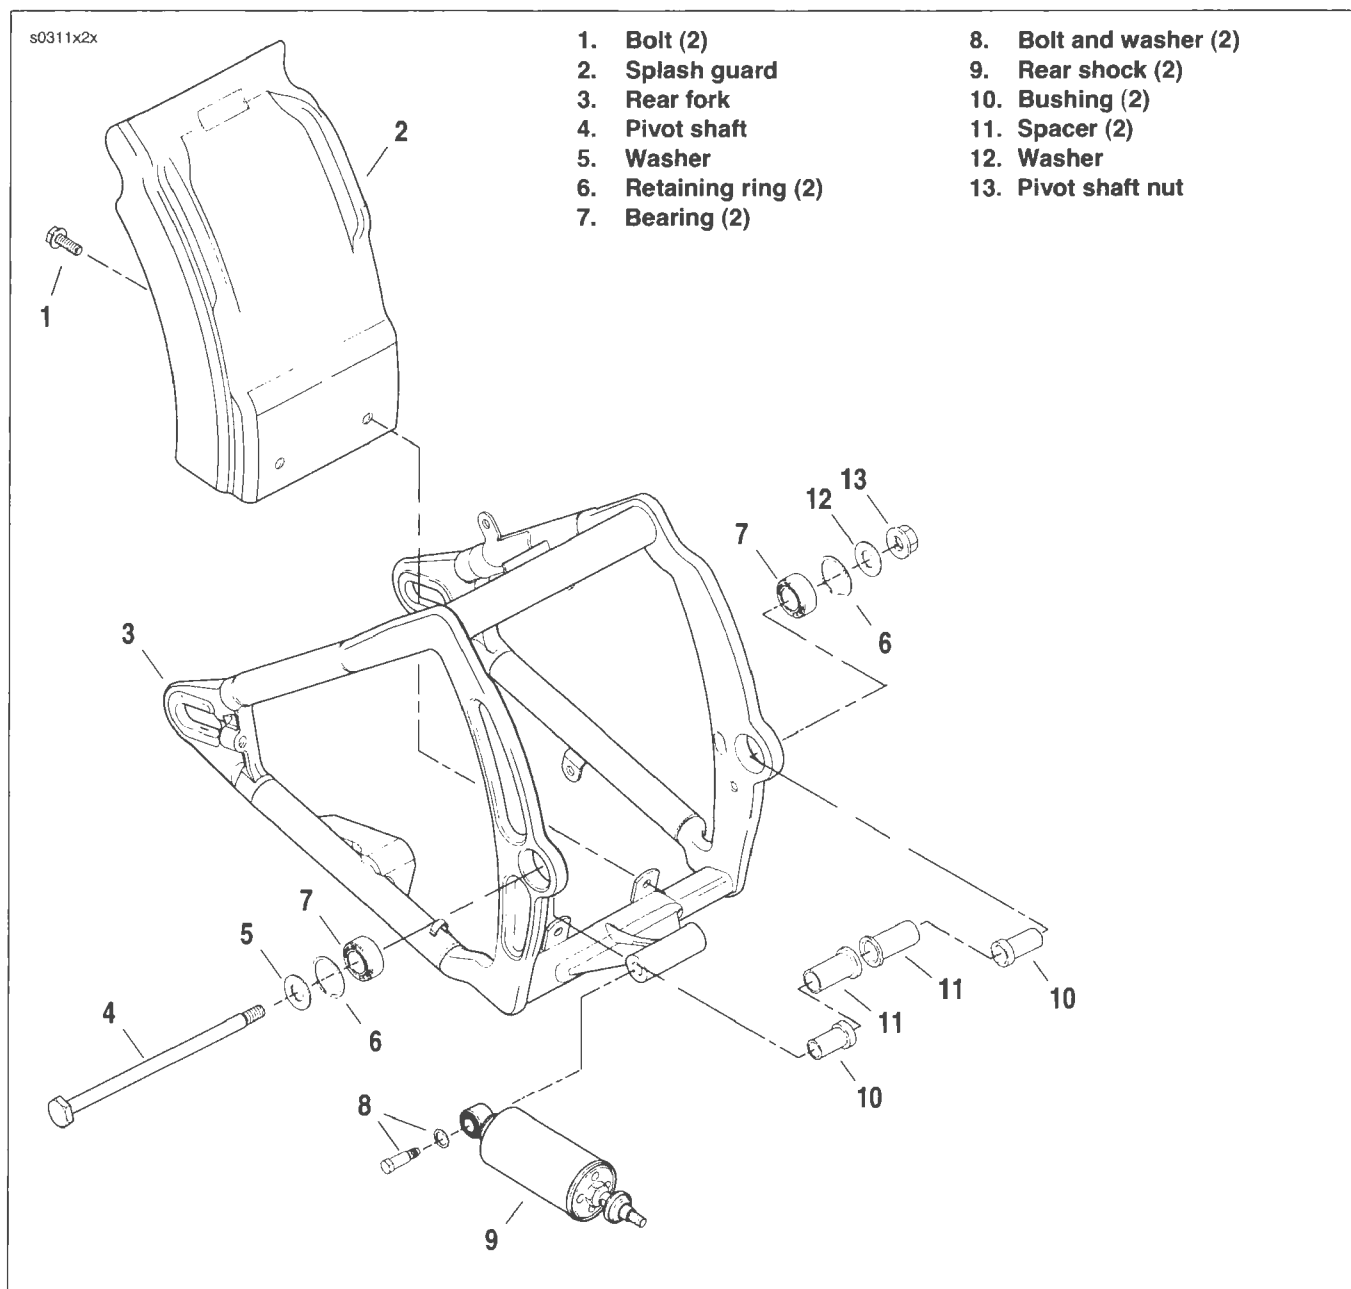
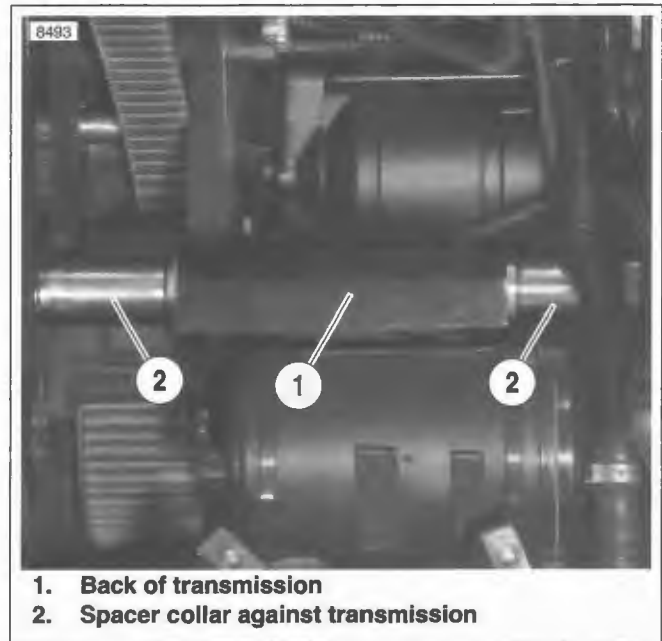

Figure 2-109. Rear Fork
Figure 2-110. Spacer Collars
3. See Figure 2-109. Remove two bolts (1) from splash guard (2). Lift upper right corner of fender towards rear tire and lift upward.
4. Remove the rear shock absorber bolts and washers (8) only. See 2.25 REAR SHOCK ABSORBERS.
6. Remove pivot shaft (4) and two spacers (11). Remove the two bushings (10) inside the spherical bearings (7). The rear fork can now be removed from the frame.
1. See Figure 2-109. Place rear fork (3) in the frame so that the bores in the frame align with the bores in the fork. Insert the bushings (10) into the spherical bearings (7) from the inside.
- a. Apply LOCTITE ANTI-SEIZE to pivot shaft (4).
- b. From the right side, install pivot shaft and spacers with spacer collars facing transmission case. See Figure 2-110.
4. See Figure 2-109. Install the canister (California models), fender extension (2), brake caliper and rear wheel.
5. Install both rear shock absorbers (9) using bolts and washers (8). See 2.25 REAR SHOCK ABSORBERS.